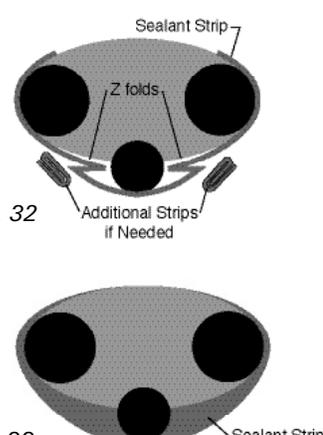

Fig. 33
5. Tightly compress sealant core and cables to eliminate all voids. (Fig 33)